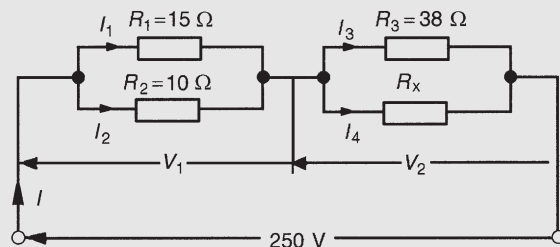

Figure 5.26
**Problem 13.** For the circuit shown in Fig. 5.26 calculate (a) the value of resistor  $R_x$  such that the total power dissipated in the circuit is 2.5 kW, (b) the current flowing in each of the four resistors.